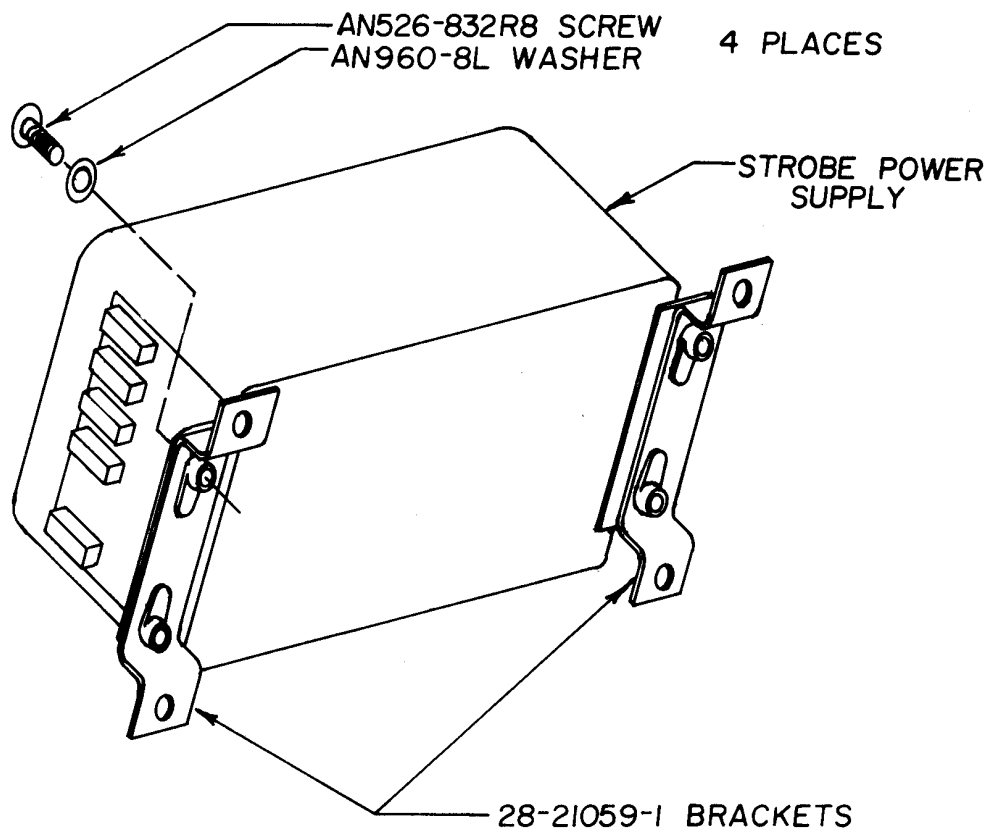

FIGURE 3 - Attaching the Strobe Power Supply to the Brackets
3. Using four AN526-832R8 screws and four AN960-8L washers, attach the strobe power supply to the 28-21059 brackets as shown in Figure 3. Do not connect the ground wires at this time.